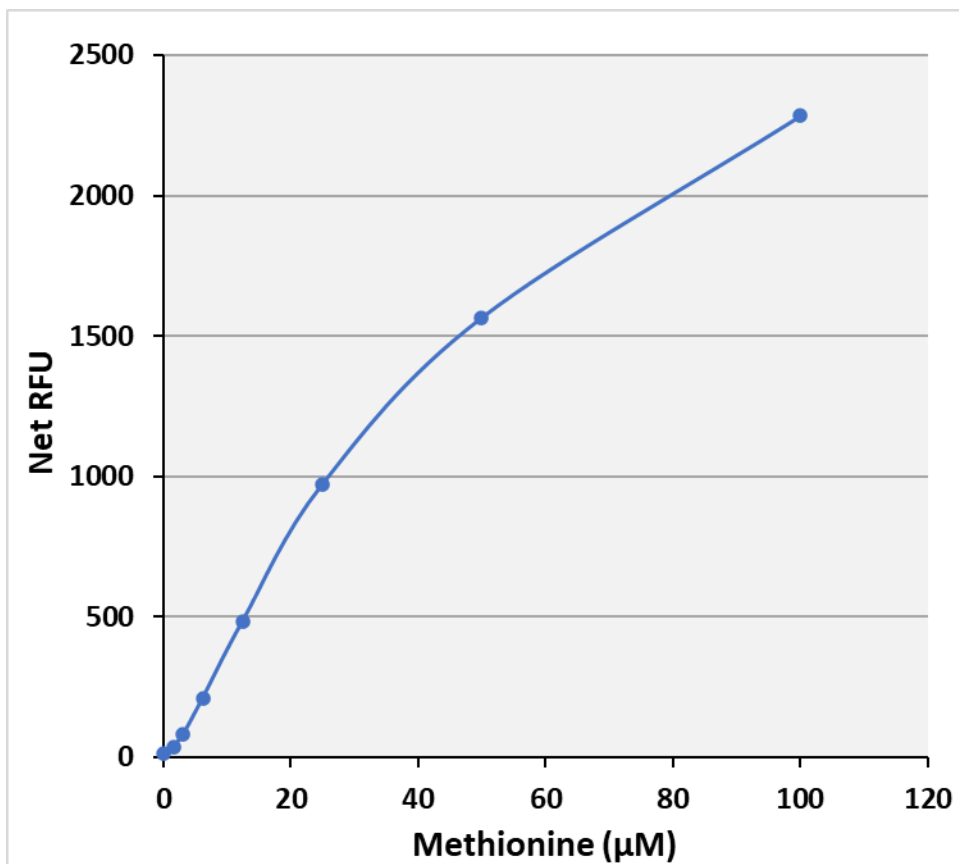

Figure 2: Methionine Standard Curve.
3. Graph the standard curve (see Figure 2).